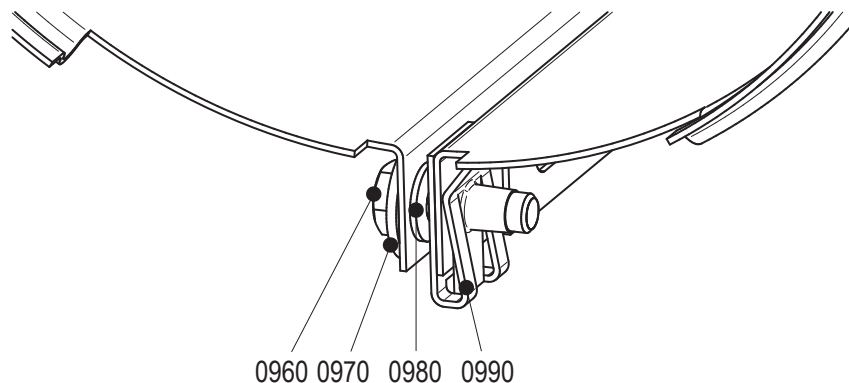

Figure 15: Fitting jacket.
- 1 Loosen bolts (0960). See figure 15.
- 3 Close the jacket and fit bolt (0960). See figure 15.
- 5 Close the jacket and fit a bolt (0230) and fit bolt (0960). See figure 15.